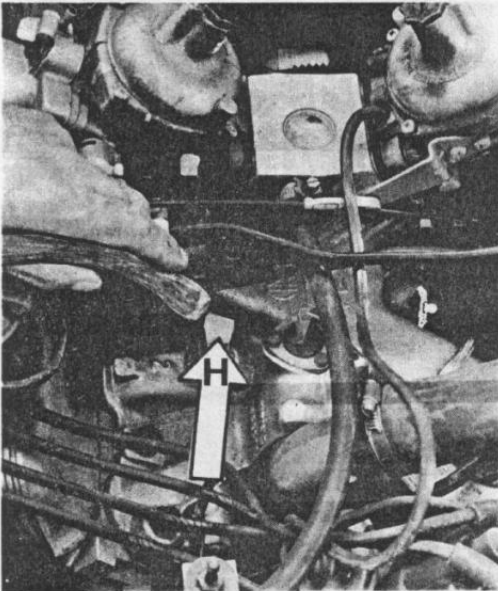

FIG. 61
- Now disconnect the brake servo pipe and seal the manifold connection which communicates with No. 2 cylinder inlet port and the right hand carburettor as seen in Figs. 61 & 62 "H".